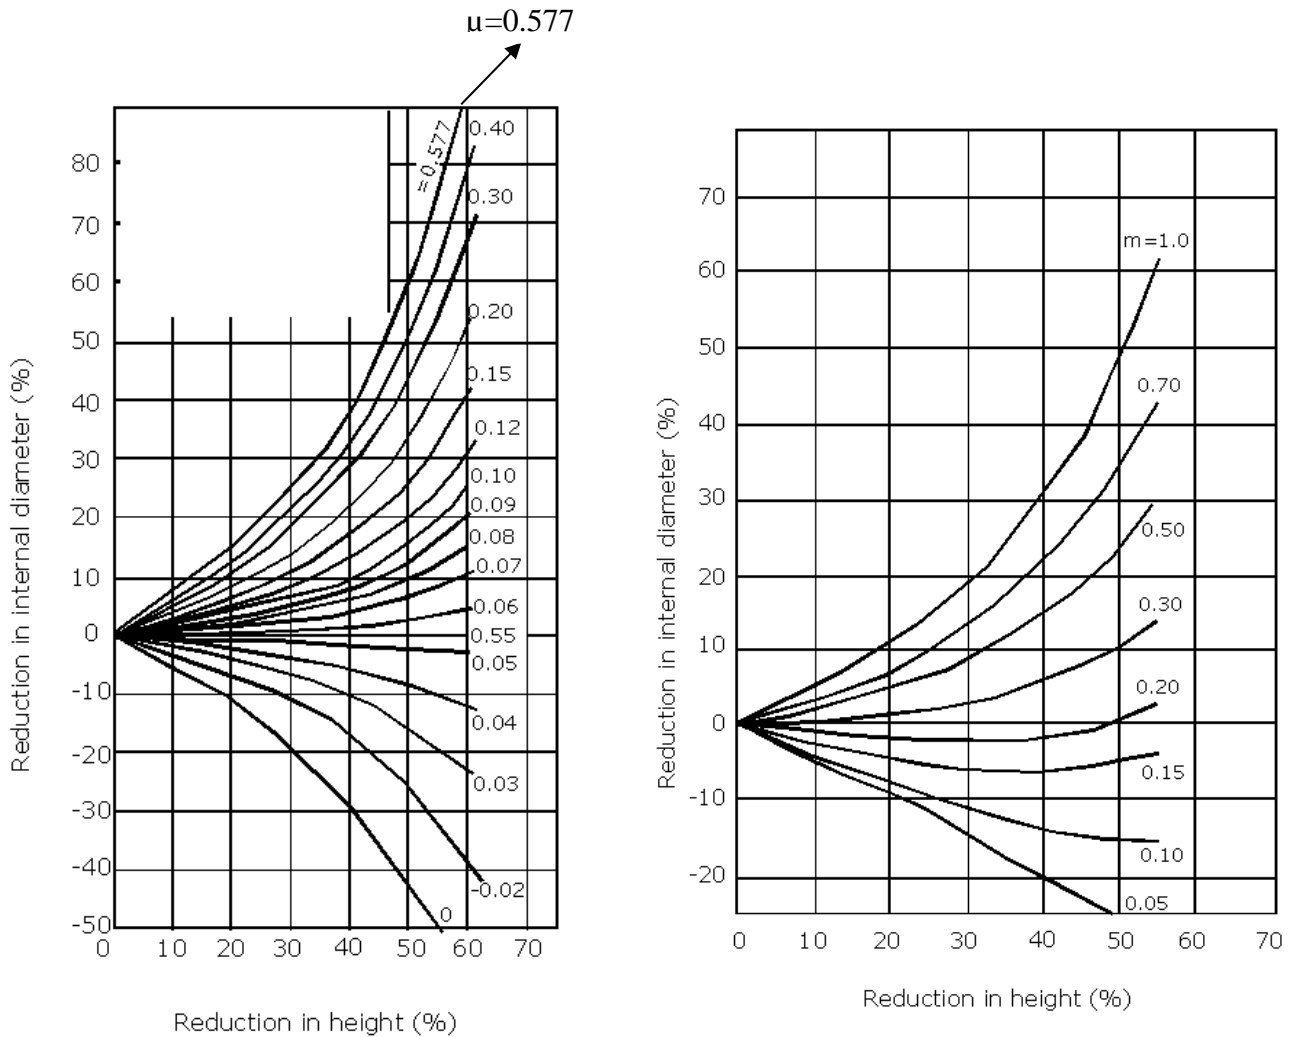

Figure Q4[b]
- [b] In the ring compression test, a specimen 10 mm high with outside and inside diameters (OD and ID) of 30 mm and 15mm, respectively. The height reduced in thickness by 50%. Based on figure Q4[b], determine the coefficient of friction, and the friction factor,  $m$ , if the ID after deformation is 7.5 mm.